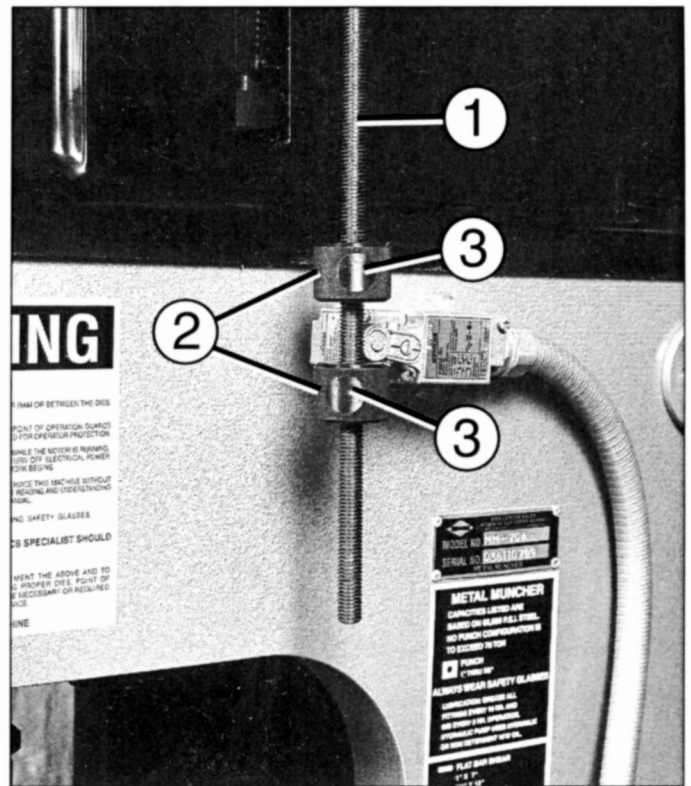

Figure 5
6. Release limit switch quick adjustment collars from shipping position (see Fig. 5).
This switch (Fig. 5) is provided to limit travel of the front hydraulic cylinder ram during punch or press work operation.
Press in on quick-set stroke buttons (item No. 3, Fig. 5) and position stroke collars (Item No. 2, Fig. 5) to allow the ram stroke desired. Final fine adjustment is made by rotating the stroke collars on the vertical threaded rod (Item No. 1, Fig. 5).